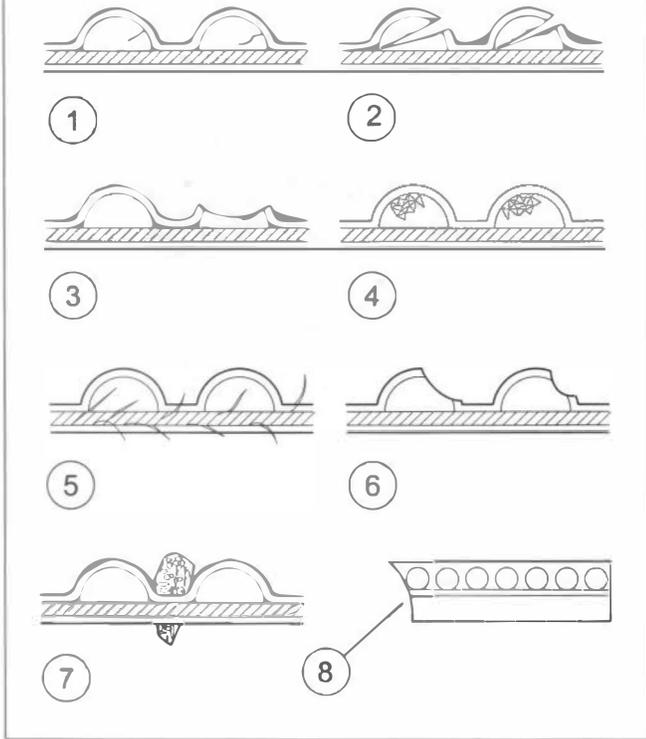

Figure 2-25. Drive Belt Wear Patterns
See Figure 2-25 and Table 2-11 Inspect drive belt for:
* See Figure 2-25